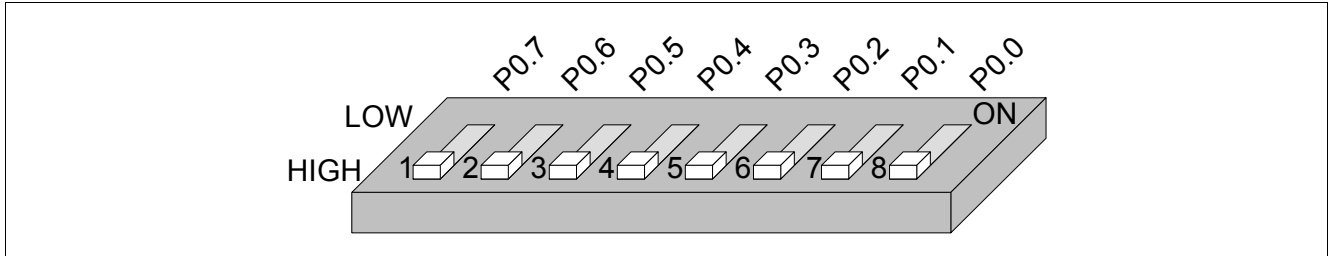
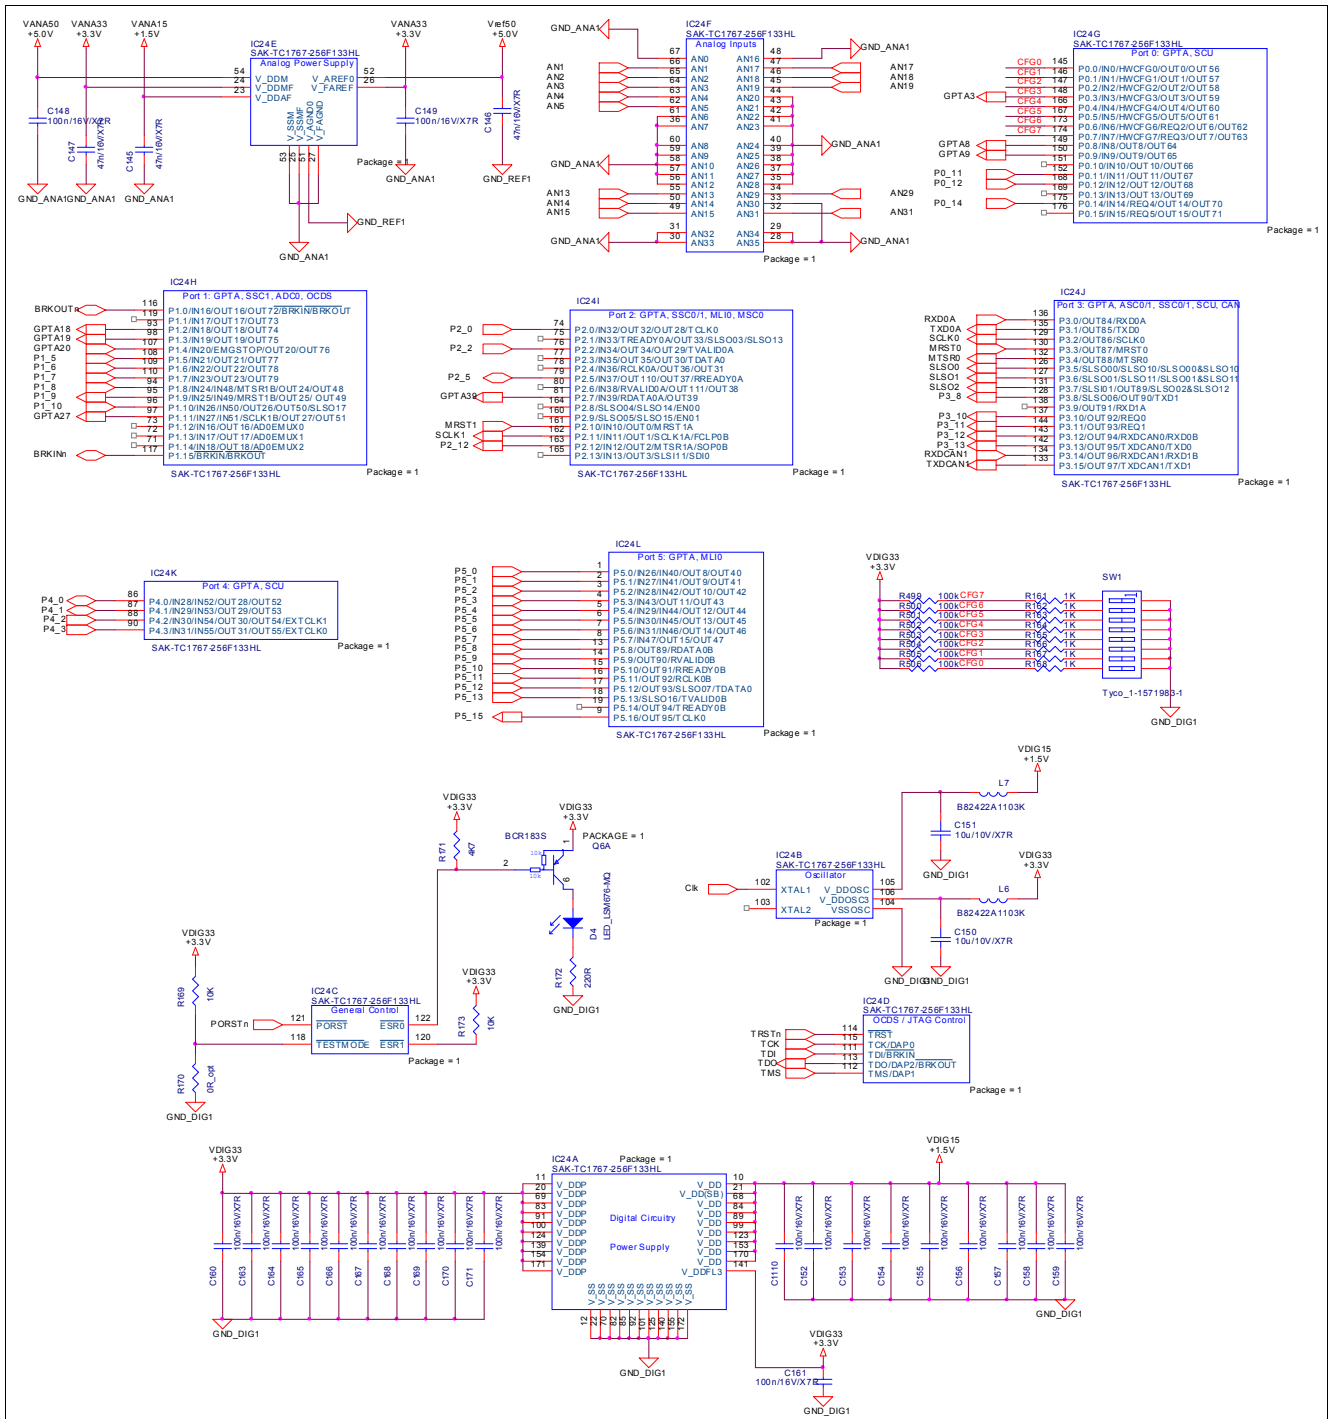

Figure 52 HW Boot Configuration of TC1767 DIP-Switch
Figure 67 Microcontroller TC1767 Pin Assignment
- TC1767 (Figure 67) is a 32-Bit Microcontroller member of the Infineon Technologies AUO FUTURE product family designed for automotive applications. TriCore™ CPU providing high-end microcontroller performance combined with sophisticated DSP capabilities (please refer to datasheet for further details)
The picture above (Figure 52) shows the definition of the boot HW configuration switch (DIP-Switch SW1 on Figure 67). The meaning of the switches will be described in the following Table 6.